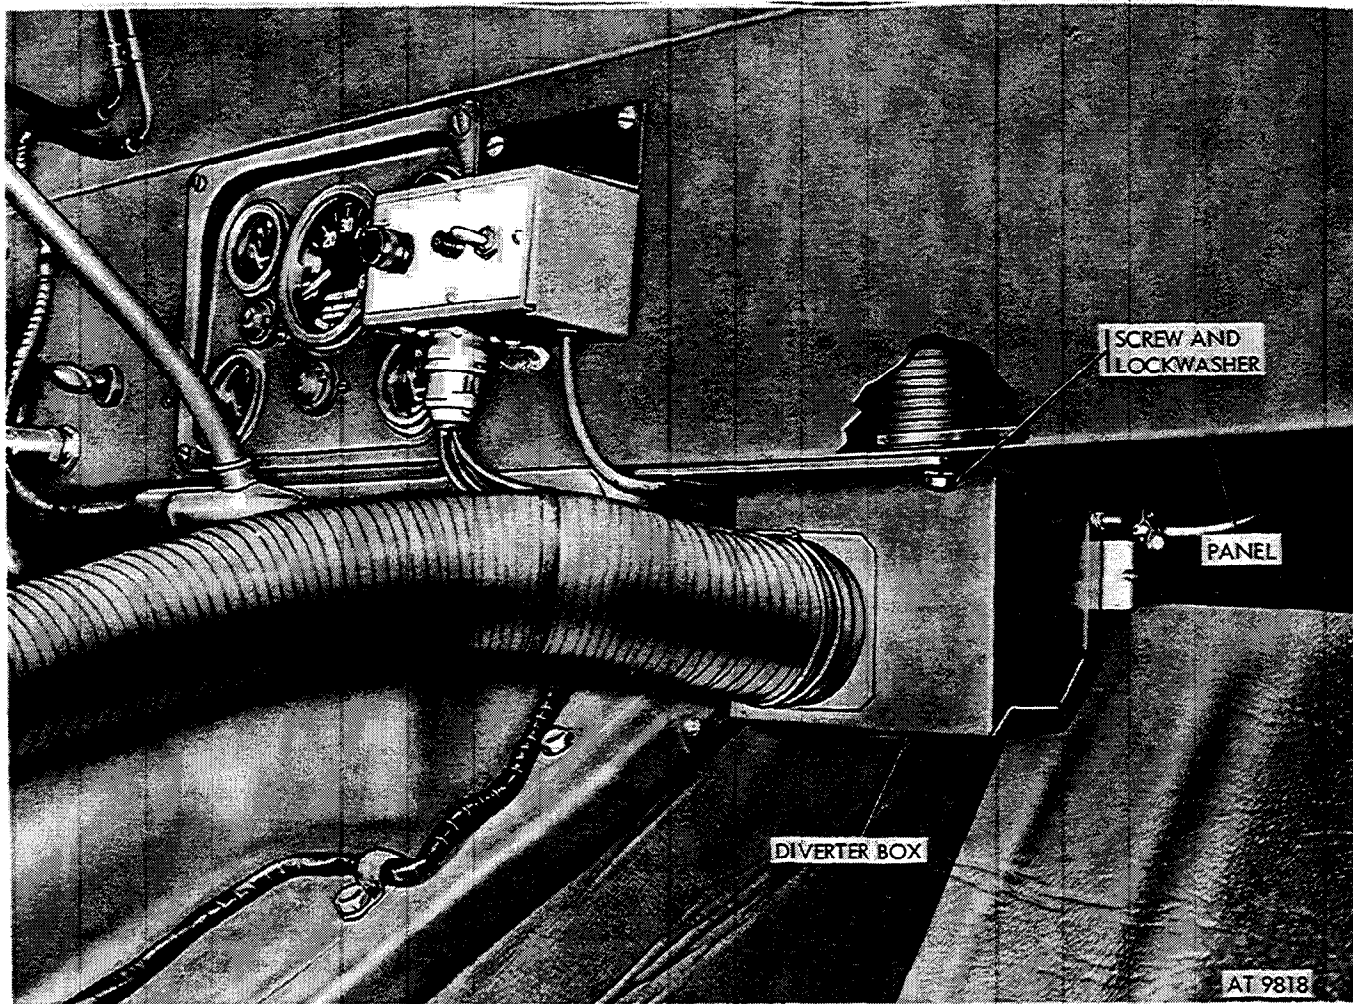

Figure 3-11. Defroster diverter installed.
*a. Removal.* Refer to figure 3-11.
(1) Loosen three clamps retaining hoses to diverter assembly and remove hoses.
(2) Remove two mounting screws, washers, and nuts.
*b. Installation.* Refer to figure 3-11.
(1) Attach diverter assembly to lower lip of dash panel with two screws, washers, and nuts.
(2) Position clamp and connect hose from heater to inlet at bottom of diverter. Tighten clamp screws.
(3) Connect Hose from left defroster nozzle to left top of diverter. Tighten clamp screw. Connect hose from right defroster nozzle to right top outlet of diverter. Tighten clamp screw.